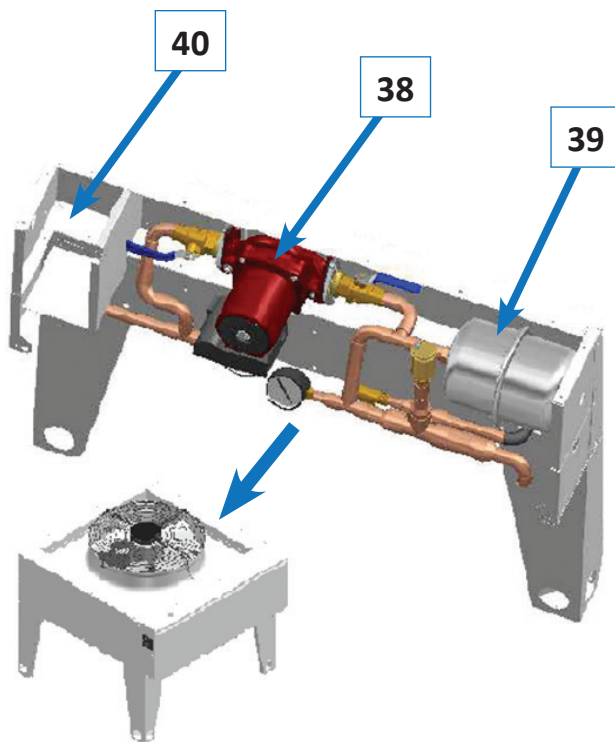

Figure 8: Pump Package Box NG-Z
If equipped with such option, dry cooler would have a pump package box. Figure 8 shows general layout of pump packages, used for NG-V model dry coolers. Note, that the package could be mounted onto the dry cooler directly (standard) or provided separately.
**Dry coolers**, if equipped with such option, would have a **pump package** box. Figures 8 & 9 show general layouts of pump packages, used for NG series: NG-Z and NG-V type, respectively. Note that the package used with NG-V coolers is normally mounted onto the cooler directly, however, it also could be provided separately.
- **Pump** (38) establishes glycol mixture circulation through the dry cooler and dehumidifier
- **Expansion tank** (39) compensates for temperature-based glycol/cooling fluid volume fluctuation
- The pump package **electrical sub-panel** (40) contains the pump package electrical power and control apparatuses